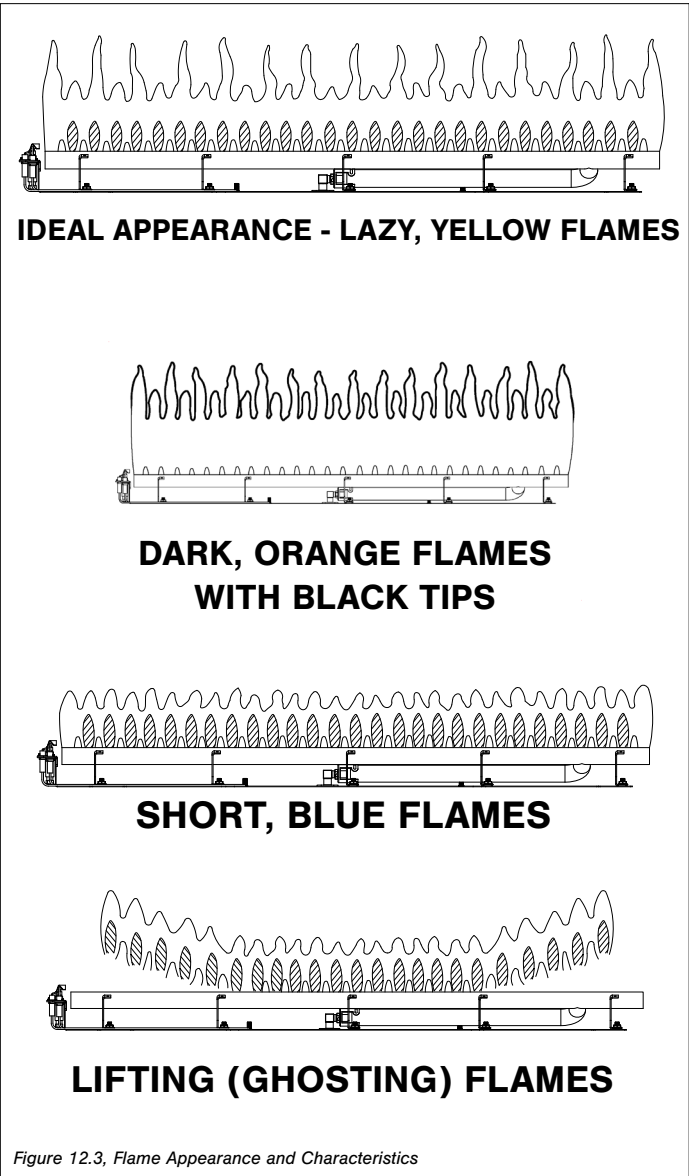

Figure 12.3, Flame Appearance and Characteristics
- Visually check pilot light and burner flame pattern when in operation. Flames should be steady, not lifting or floating. Refer to Figure 12.3, Flame Appearance and Characteristics on page 32.